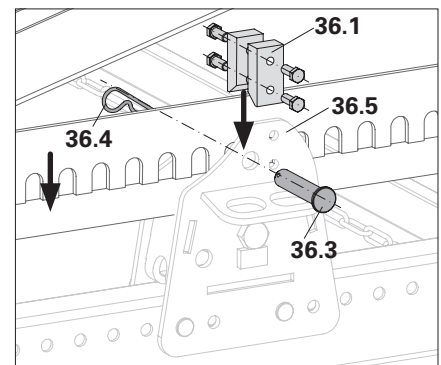

Fig. A10.03a
1. Remove the blocks (**36.1**). (Fig. A10.03a)